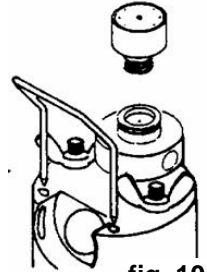

fig. 10
- Remove Air Regulation Screw and Locking Device. (fig. 10). Pull-out Air Regulation Case.